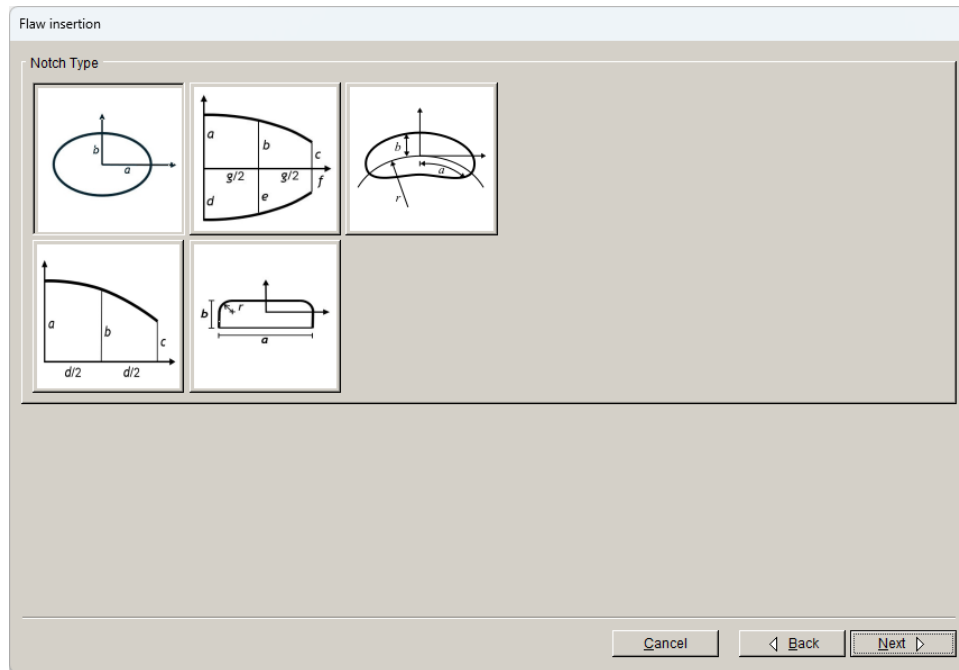

Figure 6.1.19 New Flaw Wizard notch types.
- 1) thick ellipse – top left icon in Fig 6.1.19,